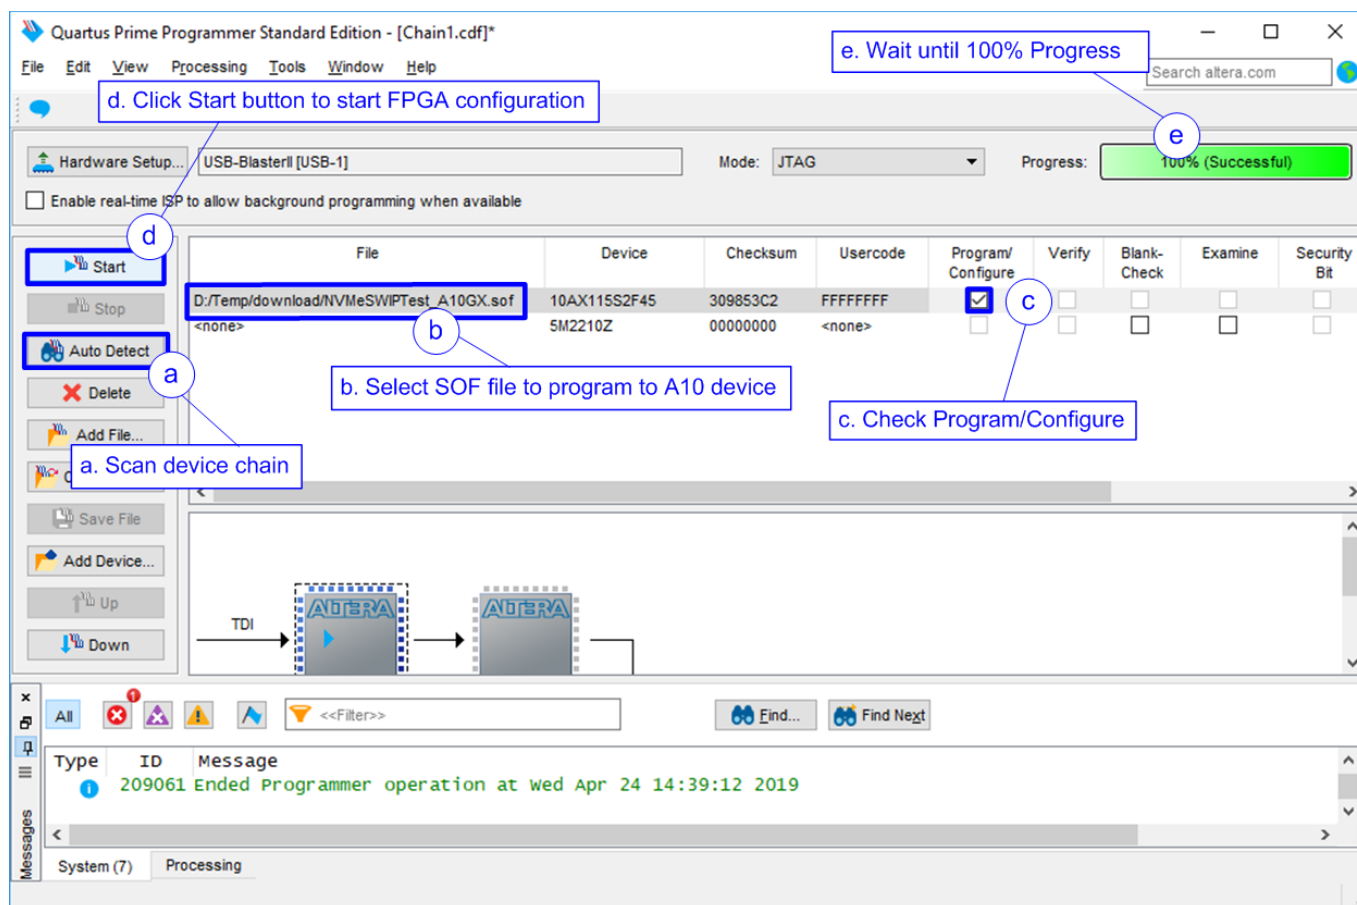

Figure 2-6 Programmed by QuartusII Programmer
g) Use QuartusII Programmer to program “NVMeIPTest.sof” file, as shown in Figure 2-6